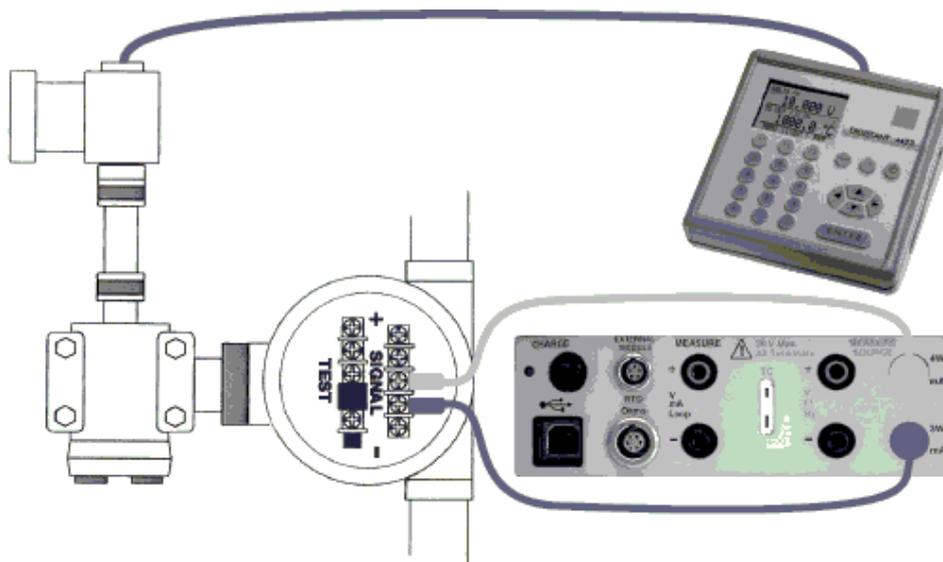

Figure 20: Calibrating an I/P Device
- Connect the calibrator to the device (shown in Figure 20).